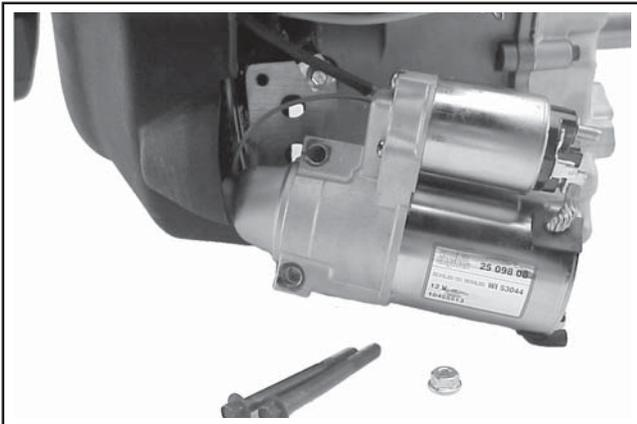

Figure 9-2. Removing Starter Assembly.
2. Remove the two hex flange screws securing the starter to the adapter plate. See Figure 9-2.